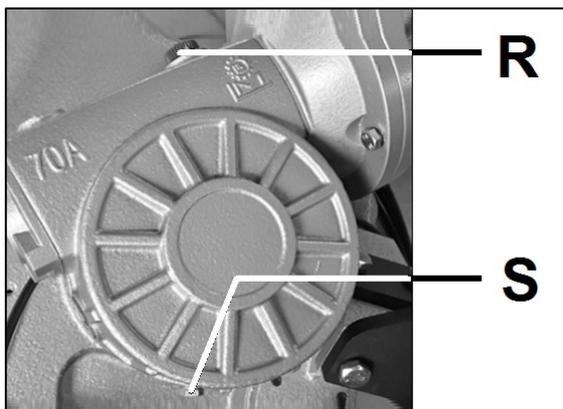

Figure 9-1: Gearbox
- Remove the drain plug (S, Fig. 9-1) and fill bolt (R).
- Replace the drain plug (S)
- Replace the fill bolt (R).